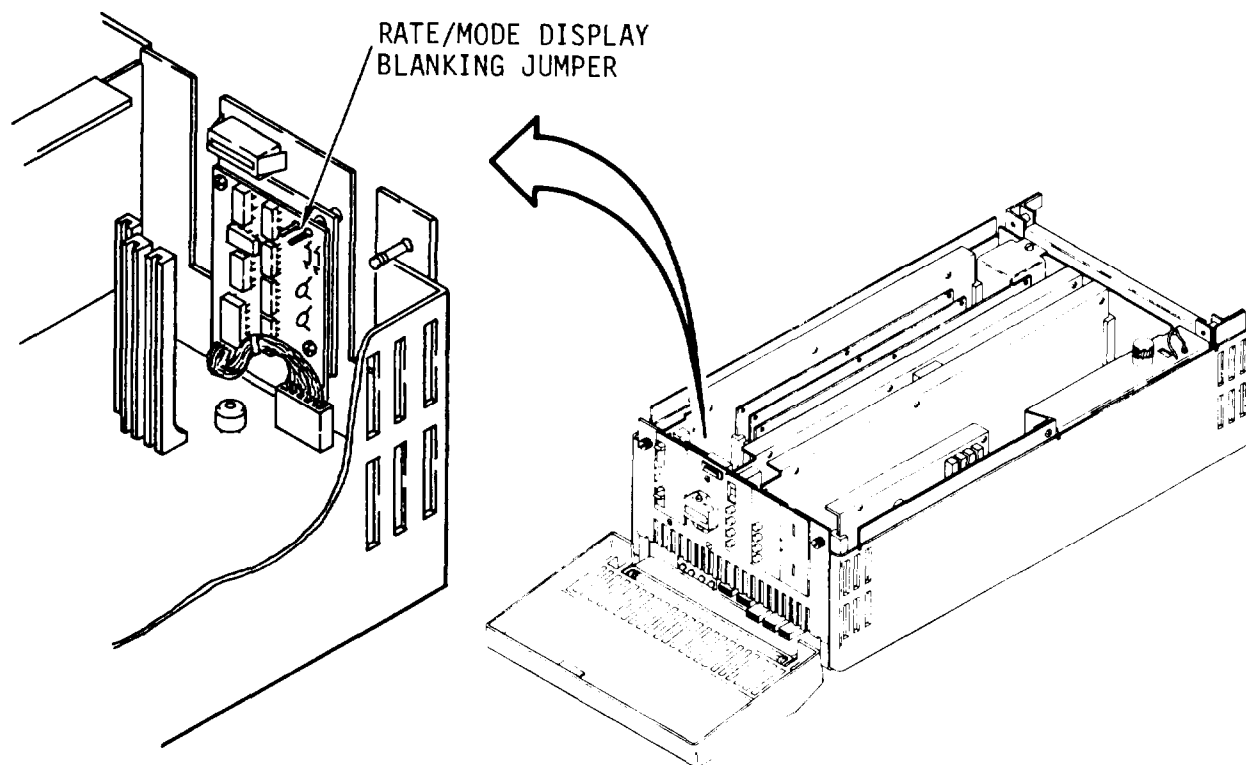

Figure 1-14. Rate/Mode Display Blanking Jumper
f. Rate/Mode Display Board. One jumper is located on the rate/mode board (fig 1-14) and is used to blank out the rate/mode display so no indications are visible at the modem front panel. The V.29 modem is normally shipped with the blanking jumper removed so the indications are visible.